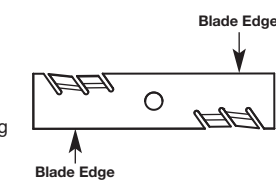

Fig. 10
- Check the blade condition (Fig. 10). As it wears it becomes smaller, thus reducing the cutting depth performance. Replace the blade when it no longer makes contact with the ground.